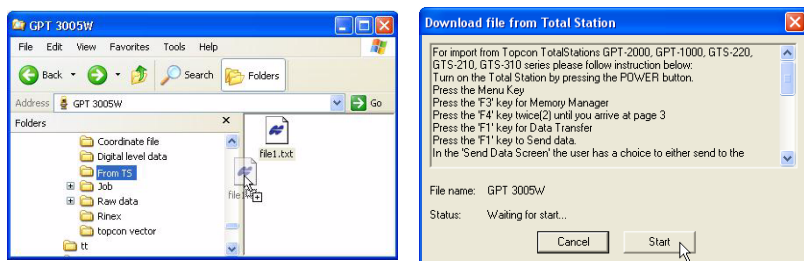

Figure 2-22. Importing a File From the Total Station
6. Follow all the steps given in the *Download File From Total Station* (Figure 2-22) window to prepare the Total Station for importing the file. Select a desired file in the Total Station for downloading to the computer.
7. Click the **Start** button on the *Download File From Total Station* (Figure 2-22) window. When ready to send the data, press the **F3** key for “yes” to begin the process.